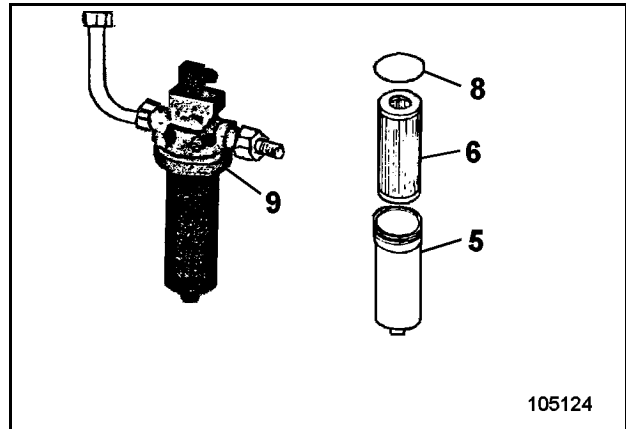

Fig. 3-156:
- Unscrew filter housing (5, Fig. 3-156:).
- Withdraw filter element (6) from filter housing (5).
- Clean filter housing (5) and the sealing face at the filter head (9) with white spirit or paraffin oil.
- Insert new filter element into filter housing (5) and refit to the filter head with new, lightly oiled sealing ring (8).